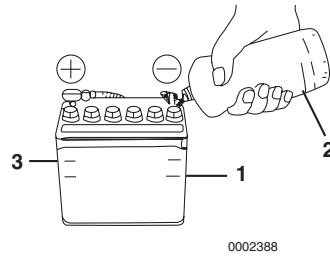

Figure 15
3. If the level is lower than the minimum fill level (**Figure 15, (1)**), fill with distilled water (**Figure 15, (2)**) (available in the grocery store) up to the upper limit (**Figure 15, (3)**) of the battery.